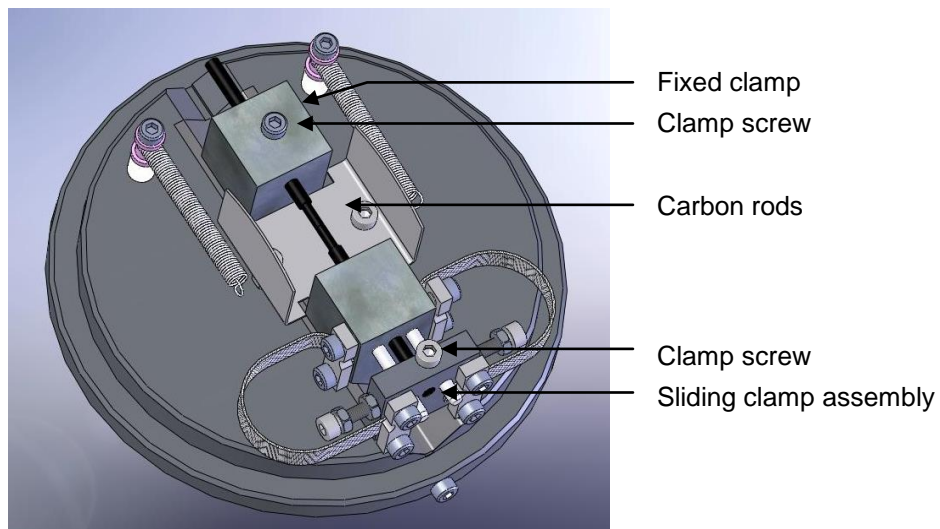

Figure 7-3. Carbon Rod Insert
7. Install the carbon rods (see **Figure 7-3**):